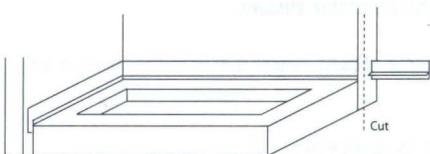

Fig 1.
To fit the Versatile Seal Strip remove backing strips from fixing tape and apply to the tray or bath as shown in (Fig 1).
Check the Versatile Seal Strip fits the shower tray or bath, then mark the excess length and trim with a sharp knife (Fig 1).
1. Fit the six hexagon shaped mounting brackets (8 on optional extension pack up to 1700mm) to the shower tray underside with the '30mm' screws supplied (Fig 1). Legs must be positioned to give an evenly supported structure, avoiding panel fixing points (section 5) and any existing plumbing.